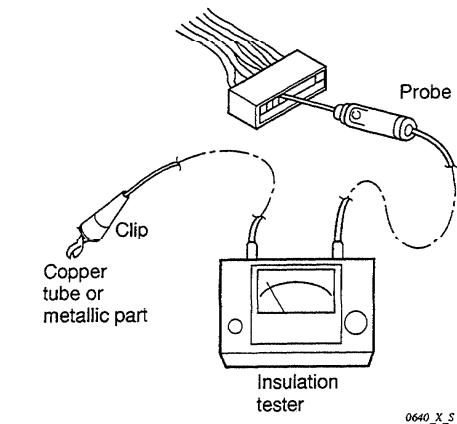

Fig. 7
④ Measurement of Insulation Resistance for Electrical parts
- Disconnect the connector of the desired electric part from terminal plate, P.C.B. Ass'y, etc. (Fig. 7)